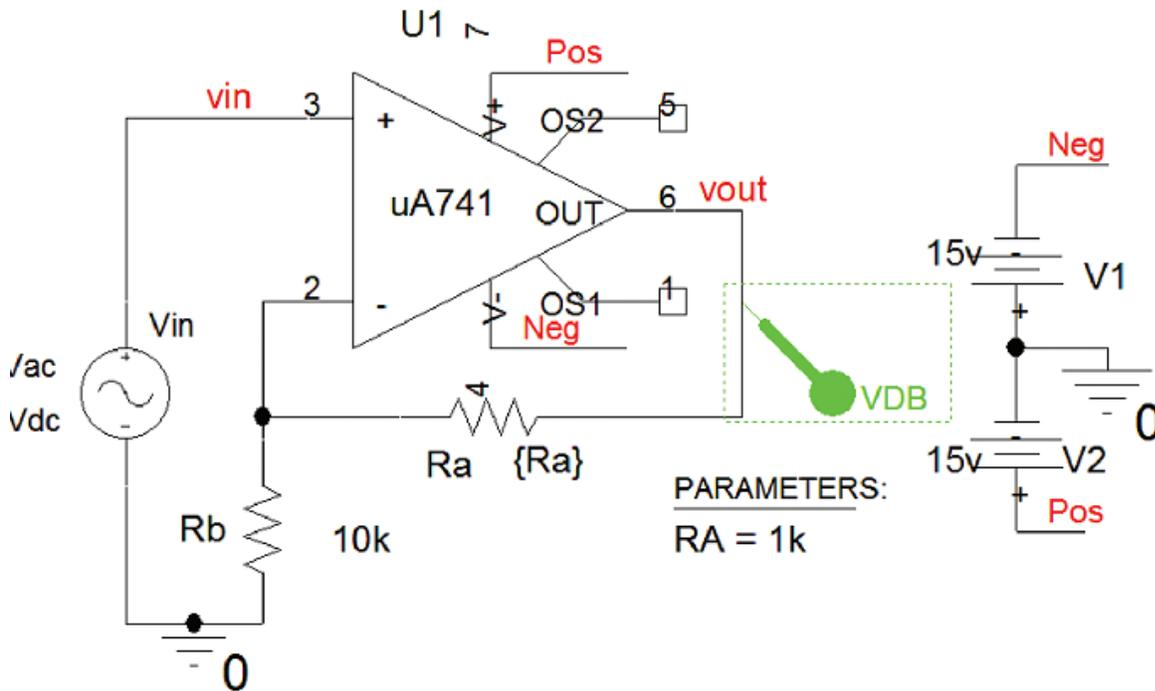

Fig 6.2: Non inverting configuration
The **VSIN** part has Freq set to 100 kHz, **VAMP** = 1 V (A peak value), and **VOFF** = 0. [Note there is no space between the variable value and the dimensions, i.e. 100k, not 100 k as this will produce an error “ERROR – Expecting keyword STIMULUS, saw k”]. Carry out a transient analysis with Run to time = 50 us, Maximum step size = 100 n and compare the slewed output signal in Fig. 6.2 to the input sine wave. Simulating a schematic produces several files, one of which is the Probe output called.dat file which when selected from Probe should produce a blank screen, so click **Trace/Add Trace**, and select the output signal (Or press the Insert key). To measure the output distortion for different input voltages, open the **Analysis Setup/Transient** menu Click on **Output File Option**. Place a tick on Perform **Fourier Analysis**, Center frequency = 100 k, Number of Harmonics = 10, and Output Variables: = v(vout). From Probe, select the icon from the left-hand toolbar to examine the harmonic analysis information at the end of the .out text file.
**Click** the **PARAM** part, select Edit Properties and add a new row with **Ra** entered in the first column and **1k** in the second column. Go back to the schematic and select the resistance Ra and enter {Ra} rather than an actual resistance value. We wish to carry out a frequency response for the different values of the resistor to be swept, so select the **Analysis tab** from the simulation icon and select Analysis type: **AC Sweep/Noise, AC Sweep Type to Linear, Start Frequency = 10, End Frequency = 1000k, Points/Decade = 1000**. Tick Parametric Sweep in the Options menu and set the parameters shown in Fig. 6.2. Enter the values for **Ra** in the Value List with each value separated by a space.